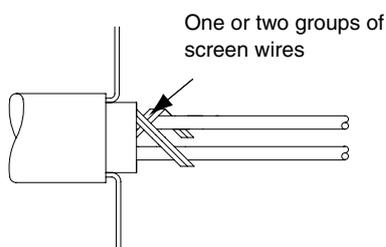

Fig. 2
- 2.3. Unravel one or two groups of wires from the screen wires, then remove the remainder of the screen wires (*See Fig. 2*).